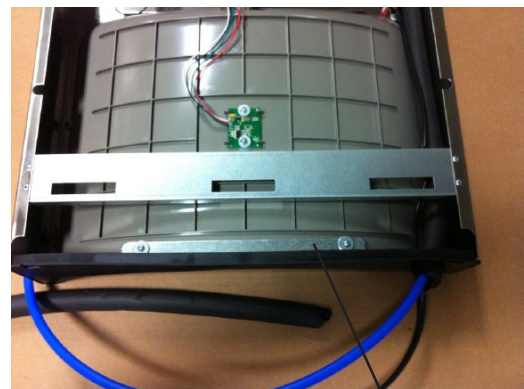

Fig. 7
- 6) **Install gasket on bottom of bottle filler tower** with gasket support bracket & (2) screws (See Fig 7).